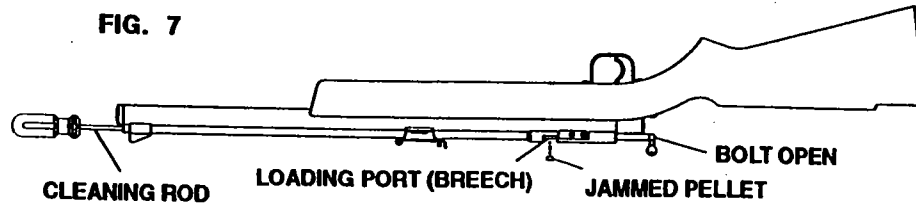

FIG. 7
- With bolt in the open position, insert a cleaning rod (cleaning rods can be ordered from factory) into the muzzle end of the barrel and gently push the jammed pellet into the pellet loading port (forward of the bolt). (Fig. 7). Don't try to reuse that pellet again.